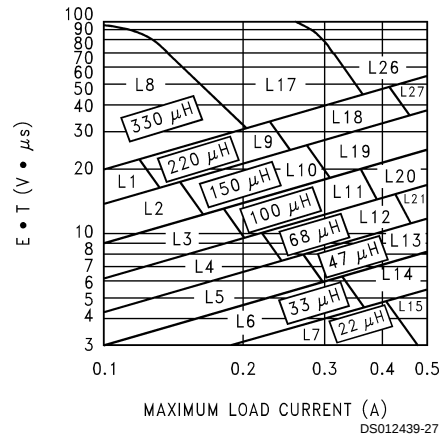

FIGURE 7. LM2594/LM2594HV-ADJ
B. Use the $E \cdot T$ value from the previous formula and match it with the $E \cdot T$ number on the vertical axis of the Inductor Value Selection Guide shown in *Figure 7*.
D. From the inductor value selection guide shown in *Figure 7*, the inductance region intersected by the 35 ($V \cdot \mu s$) horizontal line and the 0.5A vertical line is 150 μH, and the inductor code is L19.